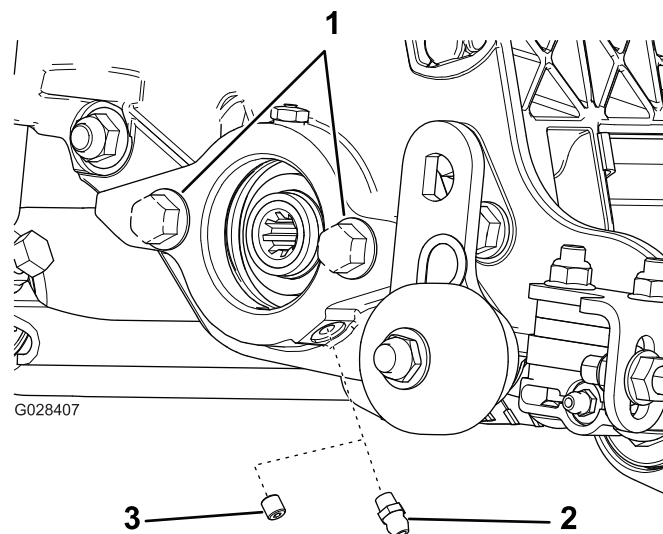

Figure 5
1. Remove and discard the setscrew on the reel-motor side plate (Figure 5).
2. Install the straight grease fitting (Figure 5).
4. If there are no bolts on the reel-motor side plate, install them (Figure 5).